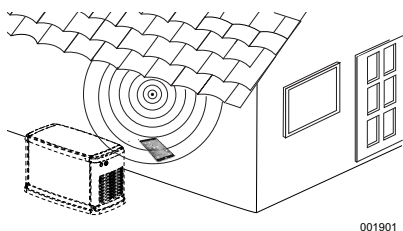

Figure 3-1. Test Wi-Fi Signal Strength
1. See Figure 3-1. Position a mobile device in the proposed generator installation location.